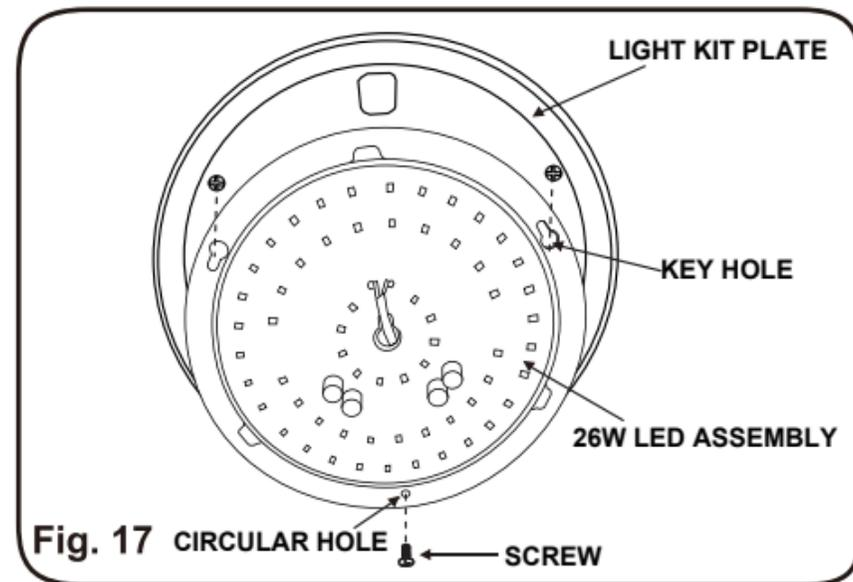

Fig. 17 CIRCULAR HOLE ← SCREW
**Step 1.** Remove the screw from circular hole and loosen the other two screws from the key holes approximately 1/4 turn. Keep the screw that removed aside for use later. (Fig.17)
**Step 2.** Turn the key holes of the 26W LED assembly from the two screws loosened previously and remove the 26W LED assembly from the light kit plate. (Fig.17)